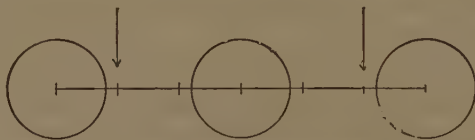

Fig. 268. Equalizing Weight on Drivers.
A. At points two-thirds away from the center wheel pair; this will put 16,000 pounds on each wheel of the first and third pairs and twice 8,000 = 16,000 on each one of the center pair. (Fig. 268.)